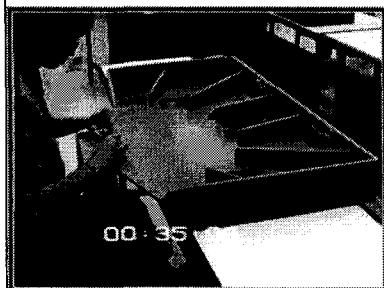

fig.7 Place spring washers to fixtures' holes.
- 5.2. (1 point) use fig. 7 to 9 for generating the Basic MOST sequence model and the times used for this sequence in TMU. (Use the general move model)